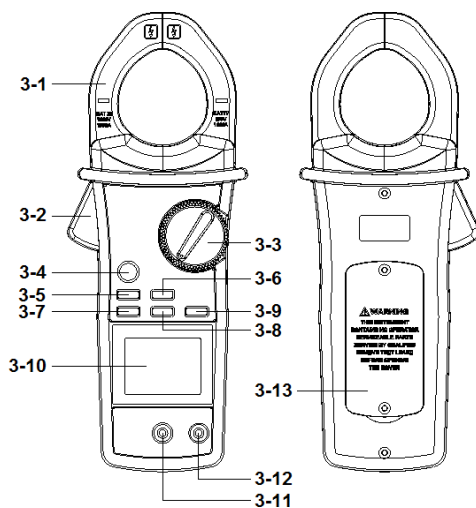

Fig. 1
- a. When not use the meter, should rotate the " Function rotary switch " (3-3, Fig. 1) to the " OFF " position.
Press the " backlight button " (3-9, Fig. 1) while turning the " Function switch " from the " OFF " position to the desiring function position.
- 1) Connect BLACK test lead into " COM " terminal (3-11, Fig. 1)
- 2) Connect RED test lead into " V " terminal (3-12, Fig. 1).
- 3) Select the " Function rotary switch " (3-3, Fig. 1) to the " V " position, Display will show " SMART " marker. meter is under " Smart " mode for voltage AC/DC auto scanning.
- 5) Push the " SELECT button " (3-5, Fig. 1) to select the " ACV " or " DCV " measurement.
- 7) Under the operation of " auto range " mode, push the " Range button " (3-8 Fig. 1) once will execute the " Manual Range " mode and hold the range.
During the measurement, if push the " Hz button " (3-7 Fig. 1) once, until the LCD show the " kHz " marker and the display will show the frequency value of the measurement signal.
- 1) Connect BLACK test lead into " COM " terminal (3-11, Fig. 1).
- 2) Connect RED test lead into " Ω " terminal (3-12, Fig. 1).
- 3) Select the " Function rotary switch " (3-3, Fig. 1) to the " Ω " position.
- 5) Under the operation of " SMART " mode, push the " SELECT button " (3-5 Fig. 1) will execute the "AUTO Range" mode and hold the range, the LCD will show the " AUTO "marker. Under the auto range operation, push the " SELECT button " will return to SMART mode.
- 1) Select the " Function rotary switch " (3-3, Fig. 1) to the " 600A " or "1000A " position, Display will show " SMART "marker. meter is under " Smart " mode for Current ACA ,DCA auto scanning.
- 2) Press the " Trigger " (3-2, Fig. 1) to open the " Current Sensor Jaws " (3-1, Fig. 1) and clamp on the measured conductor, the display will show the measurement ACA or DCA current value automatically.
- 4) Push the " SELECT button " (3-5, Fig. 1) to select the " ACA " or " DCA " measurement.
- 5) Under the operation of "SMART " mode, push the " Select button " (3-5 Fig. 1) once will execute the " ACA or DCA " mode and hold the range. Under the DCA, ACA operation, push the " SELECT button " will return to SMART mode.
- 6) Push the " DCA Zero button " (3-6, Fig. 1) until the display show " 0.0 " the LCD will indicate "  "symbol.
- 1) Connect BLACK test lead into " COM " terminal (3-11, Fig 1.)
- 2) Connect RED test lead into " \rightarrow " terminal (3-12, Fig 1)
- 3) Select the " Function rotary switch " (3-3, Fig. 1) to the " \rightarrow " position.
- 2) Connect RED test lead into " Ω " terminal (3-12, Fig 1.)
- 1) Select the " Function rotary switch " (3-3, Fig. 1) to the " $\text{--}\text{||}\text{--}$ " position.
- * *If the measured capacity existing the polarity, then should connect the " + " polarity of the measured capacitor to the " V " terminal (3-12, Fig. 1), connect the " - " polarity of the measured capacitor to the " COM " terminal (3-11, Fig. 1),*